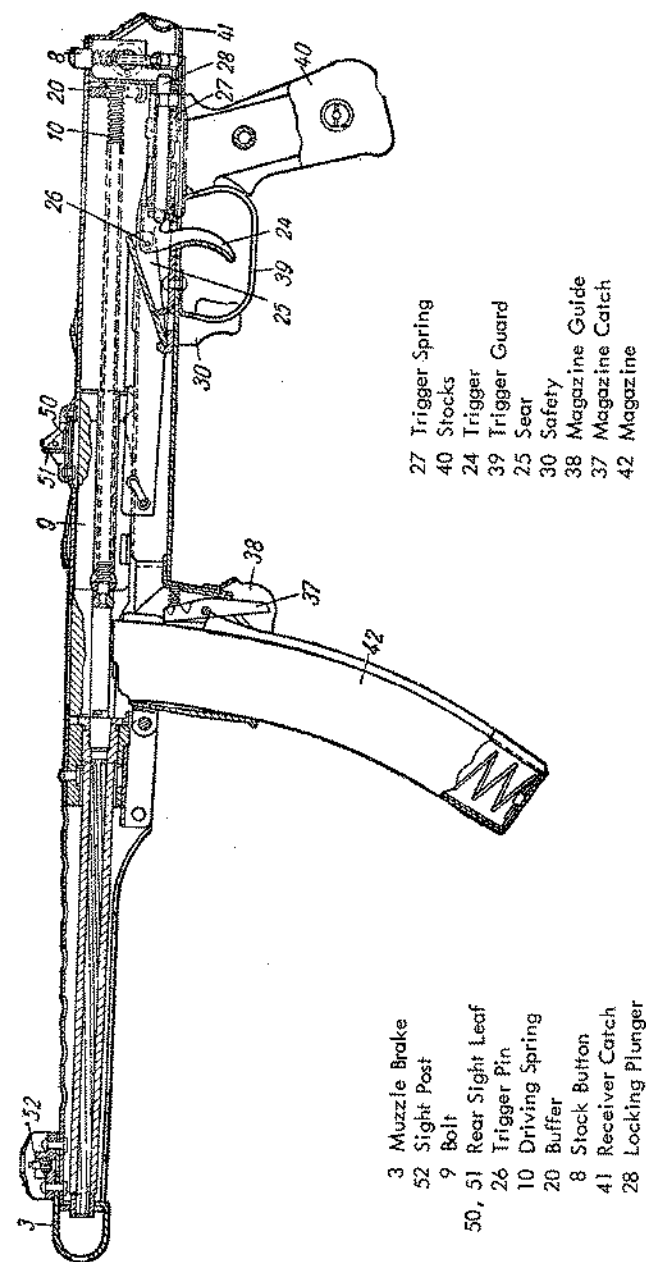

Figure 41. PPS-43 section.
(1) First, insert the stud of the driving spring assembly into the bolt, with the spring in the groove in the side of the bolt.
(2) Hold the bolt and the driving spring assembly at about a 90° angle to the receiver, and with the flat edge of the metal and fiber buffer pad to the rear of the gun, place the buffer over the foremost crosspiece at the rear of the receiver. Retrac the bolt slightly and swing it into the receiver.
(3) Swing the lower receiver up, press on the receiver catch, and completely close the lower receiver.
b. The firing cycle starts with the bolt caught to the rear by the sear (fig 41). Pressure on the trigger causes the sear to disengage from the bolt, and the force of the driving spring then drives the bolt forward. The feed rib on the bolt strikes the top cartridge in the magazine and drives the cartridge out of the magazine and into the barrel. The extractor snaps into the groove of the cartridge as the fixed firing pin strikes and ignites the primer, firing the cartridge.
c. The recoil of the fired cartridge drives the bolt to the rear and compresses the driving spring. The fired cartridge case is held to the bolt by the extractor until it strikes the ejector on the end of the driving spring guide (fig 41). The cartridge then pivots around the extractor and is expelled. The bolt continues to the rear until it is stopped by the buffer; the driving spring then drives the bolt forward.
The trigger is pivoted to the rear end of the sear. The front of the receiver locking plunger (28) passes through a hole in the trigger, and the spring-loaded trigger return collar (mounted on the pin) bears against the rear of the trigger. See figure 41 for a sectional view of the trigger mechanism.